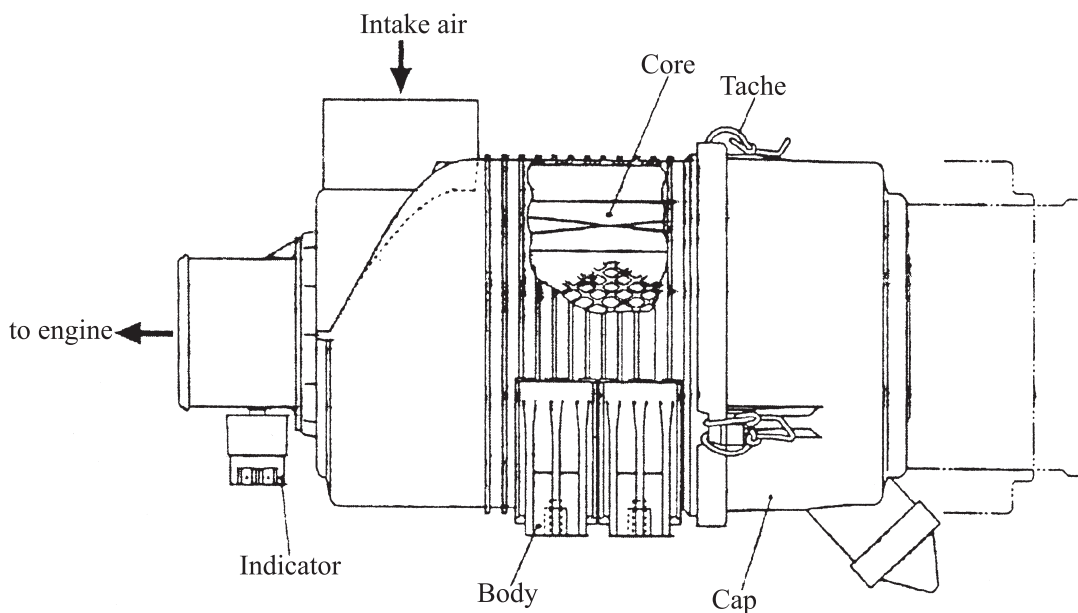

Fig.1-4 Air cleaner
1.2.1 For air filter, please See Fig.1-4.